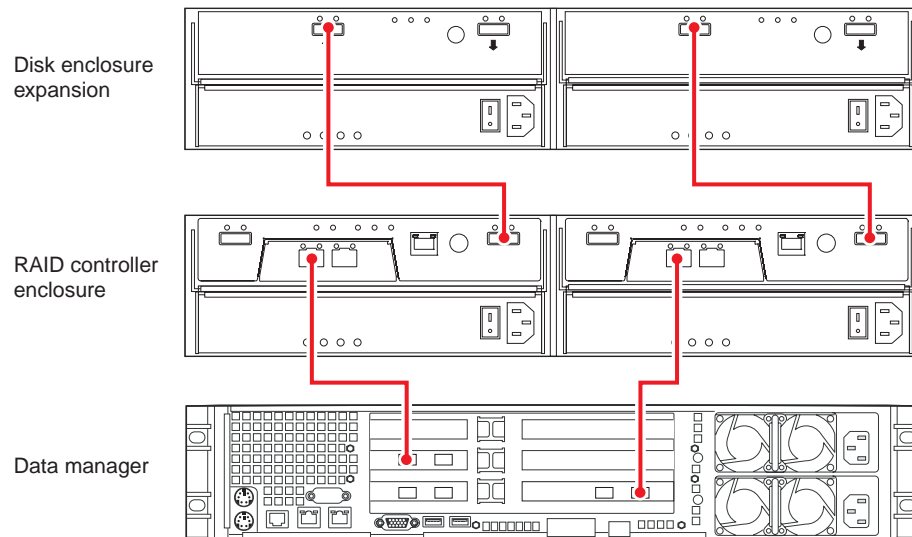

Figure 1-15 Data Manager, Dual-Controller RAID Enclosure and One Disk Expansion Unit
Use the following steps and Figure 1-15 to cable a data manager to a dual-controller RAID enclosure with one disk expansion enclosure.
1. Connect the Data Manager's first Fibre Channel PCI card port to the left-side RAID controller's host 1 port in the controller enclosure, see Figure 1-15.